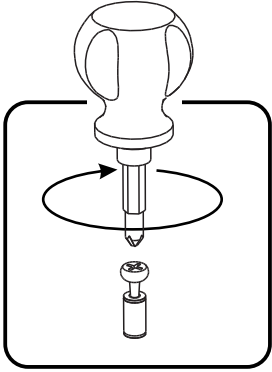

Figure 1
Insert 34 pcs. of **01** into pre-drilled holes in Top (A), Side Panels (C), (E), (K), (M), Fixed Shelf (B) and Base (G), then tighten. (See Figure 1)